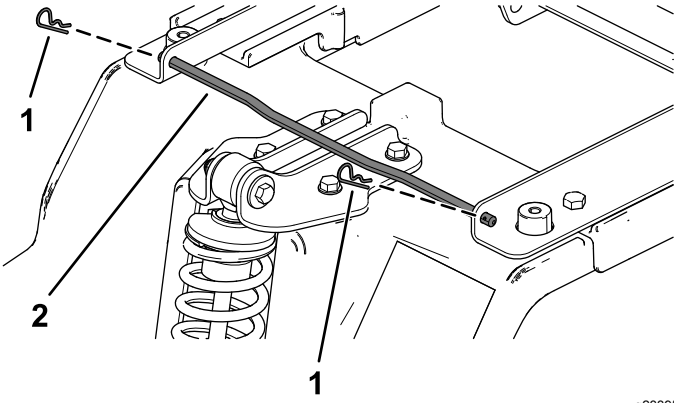

Figure 4
1. Remove the 2 hairpin cotters from the seat-pivot rod, and remove the seat-pivot rod from the platform (Figure 4).